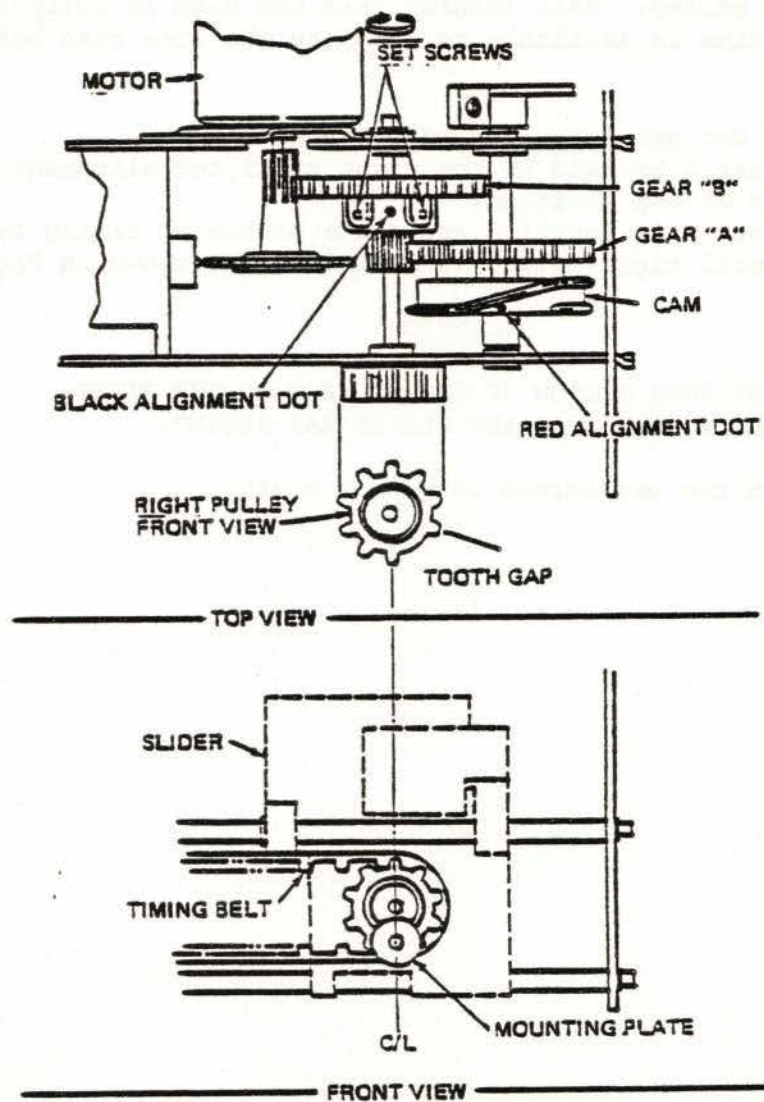

Figure 6-1. PRINTER "HOME" POSITION
#### 6.2 PAPER FEED ADJUSTMENT (See Figure 6-1)
- (1) Loosen two set screws on gear B shaft.
- (2) Turn gear B by hand to the right until red alignment dot on cam gear is at top position.
- (3) Hold gear B in position and slide bottom of timing belt to the left until right pulley is positioned as shown in Figure 6-1.